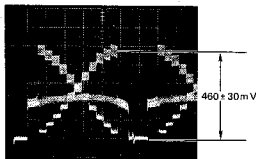

Fig. 5-4
- Adjust lens iris so that CDS output signal at pin 1 of CN5 becomes 460 mV as shown in Fig. 5-4.